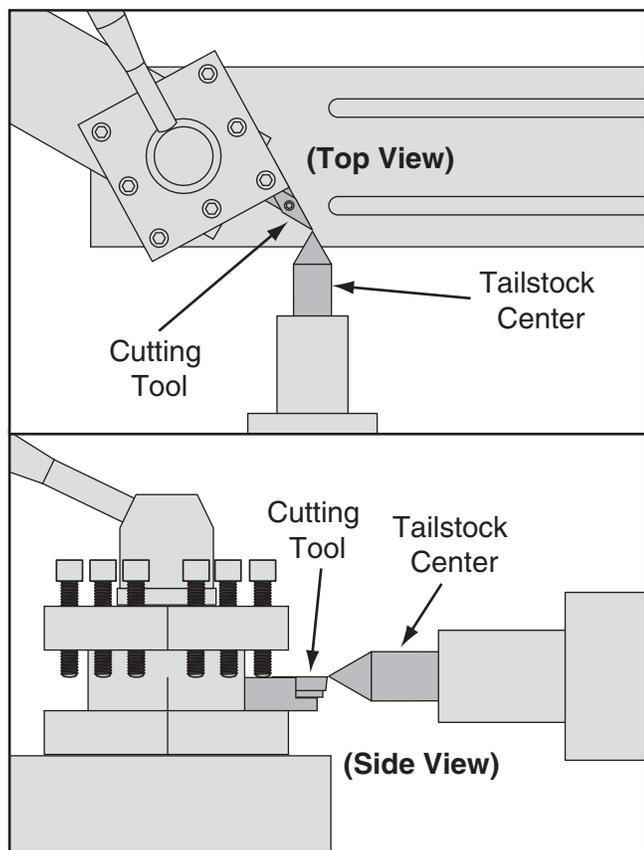

Figure 55. Cutting tool aligned to the tailstock center.
4. Adjust the height of the cutting tool so that the tool tip is aligned vertically and horizontally with the center tip, as shown in **Figure 55**.